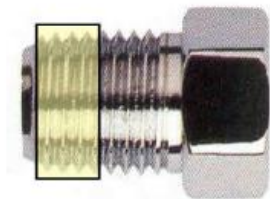

Figure 1
2.1.3 Apply an even coat of liquid sealant over the entire circumference of the first four threads of the male coupling (see figure 1).